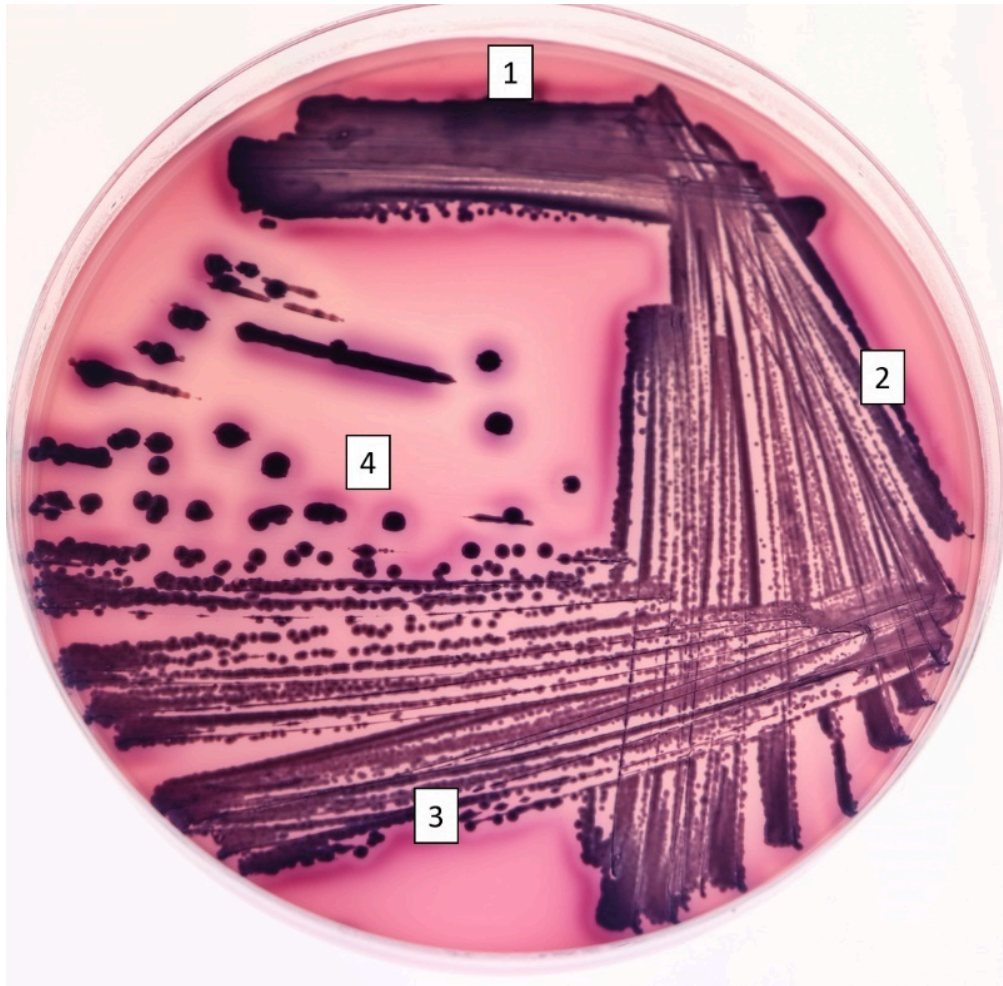

Figure 4.1. Pattern of streaks on a four-pull streak plate
2. The loop is touched to a bacterial colony then streaked on a new petri plate (Figure 4.1).